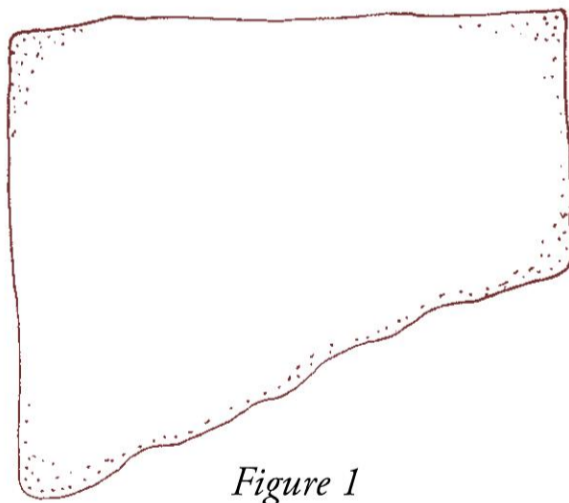

Figure 1
**1** Prepare the piece of copper sheeting by cutting halfway into the 2 x 2-inch (5.1 x 5.1 cm) sheet and tapering out to the 2-inch (5.1 cm) length as shown in figure 1.